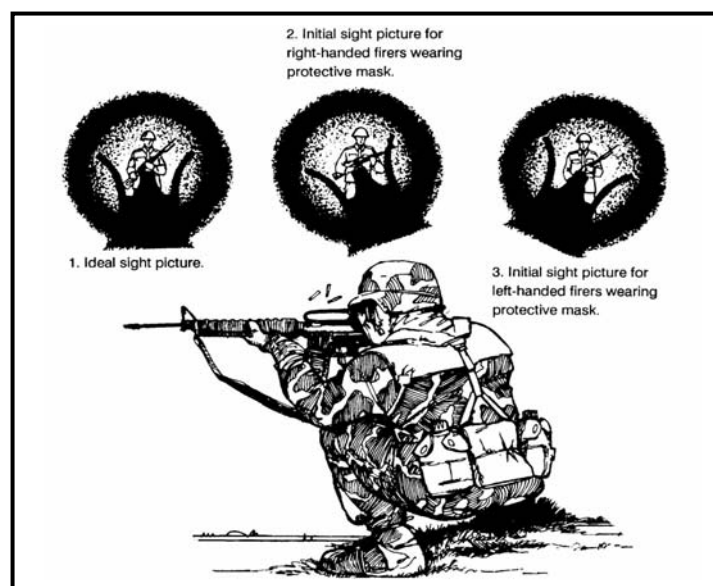

Figure 7-18. Sight picture when canting the rifle while wearing a protective mask (75-meter target).
(2) **Aiming.** Wearing a protective mask may force firers to rotate (cant) the rifle to see through the rear aperture. The weapon should be rotated the least amount possible to see through and line up the sights. The center tip of the front sight post should be placed on the ideal aiming point. This ideal aiming procedure (Figure 7-18, page 7-20) should be the initial procedure taught and practiced.